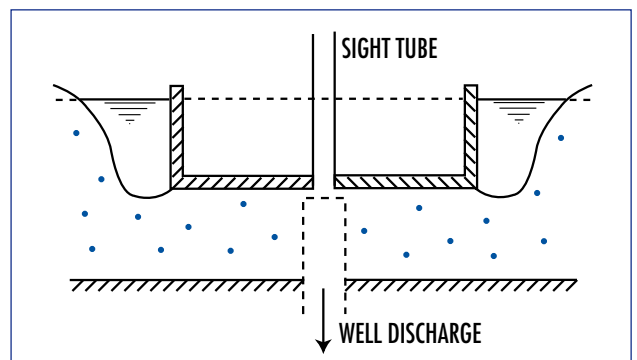

Fig. 3: Setting up a confined aquifer for a single well
- *Abstraction from a single well in a confined aquifer. (Fig. 3)*
Fig.3 shows the construction of a single well in a confined aquifer with radial symmetry.